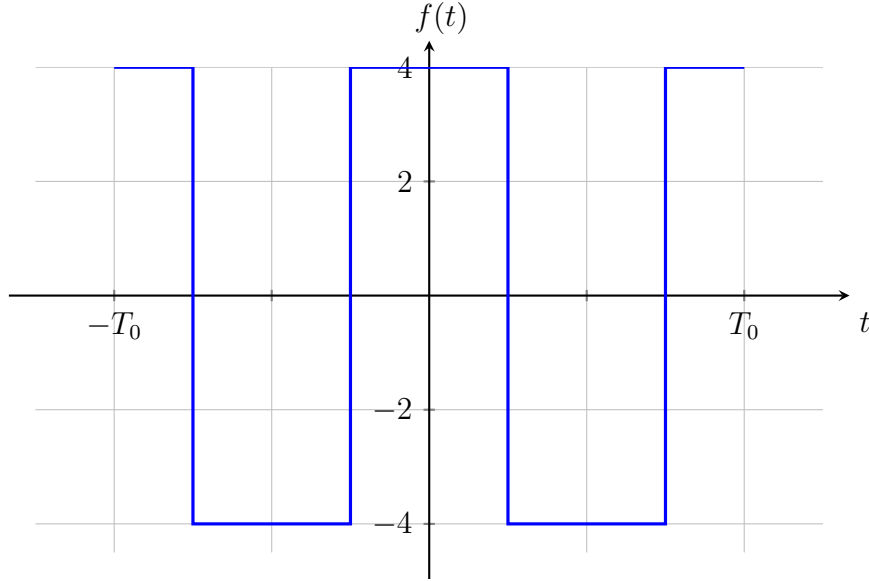
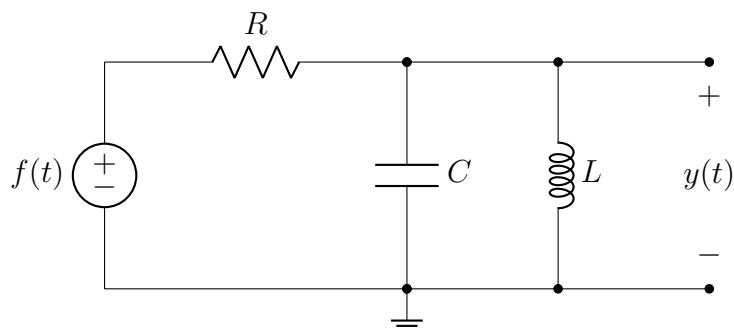

Figure 5.1: 4 V square wave.
Figure 5.2: Series/parallel resonant circuit
Derive the exponential Fourier series for the square wave that has an amplitude of 4 V (8 V peak-to-peak and no DC component seen in Fig. 5.1).
Find the ODE governing the circuit in Figure 5.2. From the ODE, derive the transfer function $H(s)$ from this ODE. In your `ece3210_lab06.py`, add a simulation of the system if the input $f(t)$ is the square wave in Fig. 5.1.
- What ODE governs the circuit in Fig. 5.2?
Connect the $1\text{ k}\Omega$ resistor, the $0.033\text{ }\mu\text{F}$ capacitor, and the 1 mH inductor as shown in Figure 5.2. Connect the input to the function generator and attach a scope probe to the output. Configure the function generator to produce a 20 kHz square wave with a 4 V amplitude. Compare the scope output to your predicted response. It is unlikely they are the same due to part tolerances. The easiest (but not the most accurate) way to compensate is to adjust the frequency until the images are similar. Record your observations and include a conclusion in your Canvas submission summarizing what you have observed or discovered.